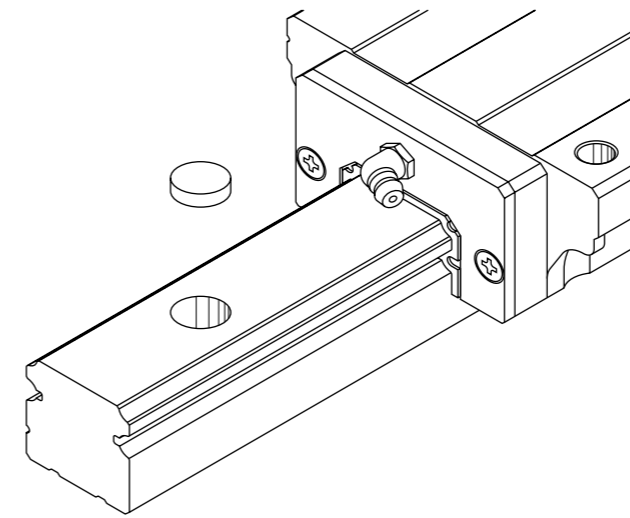

Fig. 5
- After the rail is mounted to the machine base, a cap is used to cover the bolt hole to prevent foreign matter from clogging up the hole or from entering the ball slide (Fig. 5).